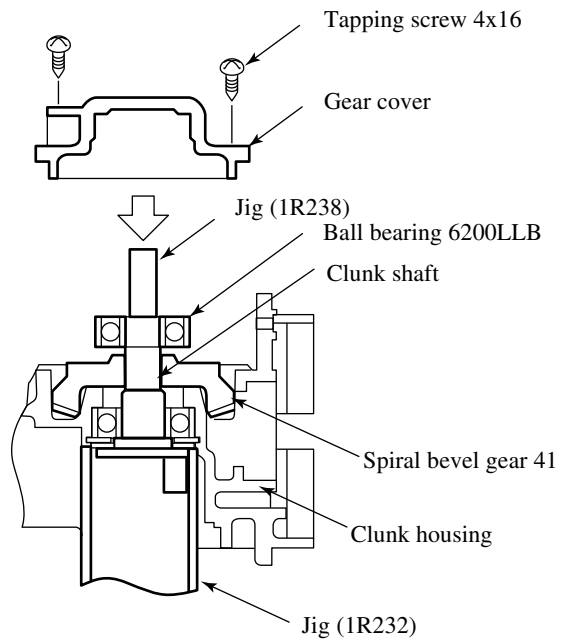

Fig. 20
1) Remove Tapping screw 4x16 and Gear cover. ( See Fig.20)
2) Use Jigs, 1R232 and 1R238, shown in Fig.20, press out Clunk shaft by Arbor press.